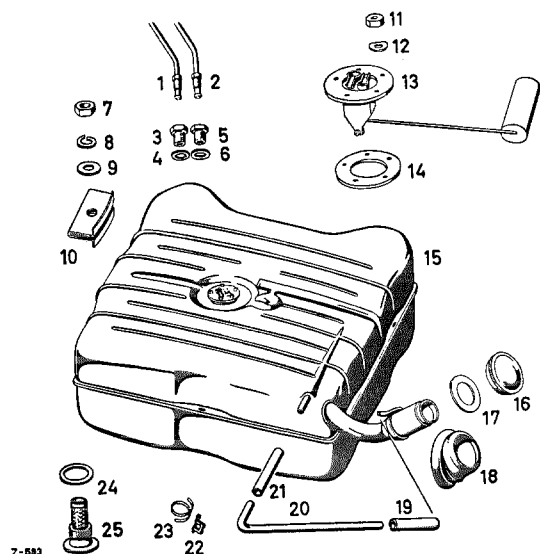

Fig. 47-1/1
Disconnect and connect the reserve fuel line. The fuel tank is ventilated by the one-turn cap (16) (Fig. 47-1/1). On this model the vent line is not required.